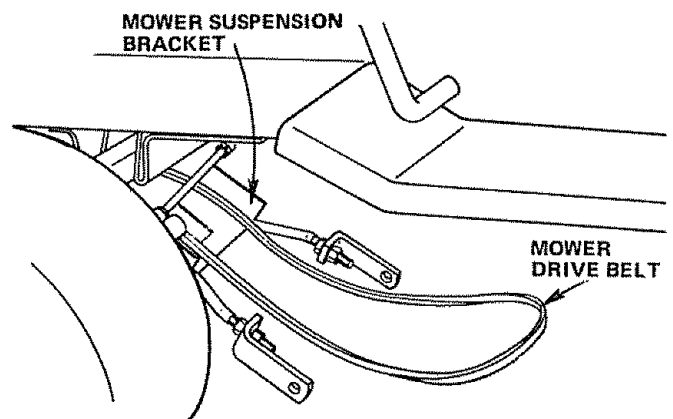

FIGURE 13
3. Pull Mower Drive Belt over Front Mower Suspension Bracket (Fig. 13).